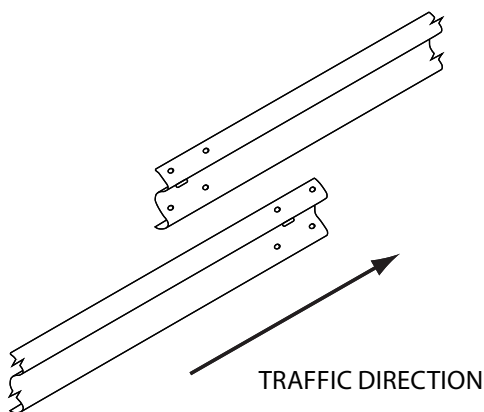

Figure 17: Orientation of Rail Lap
11. Rails are orientated so that no leading edge is presented to the traffic face as shown in Figure 17.